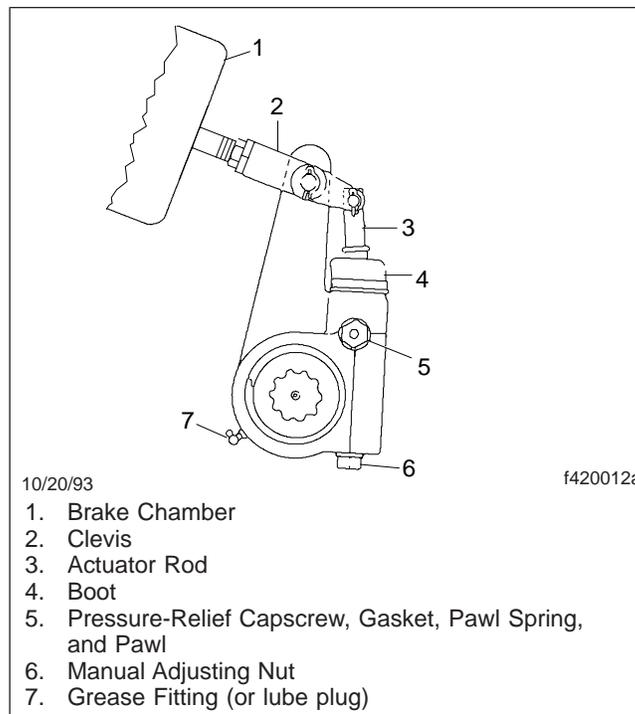
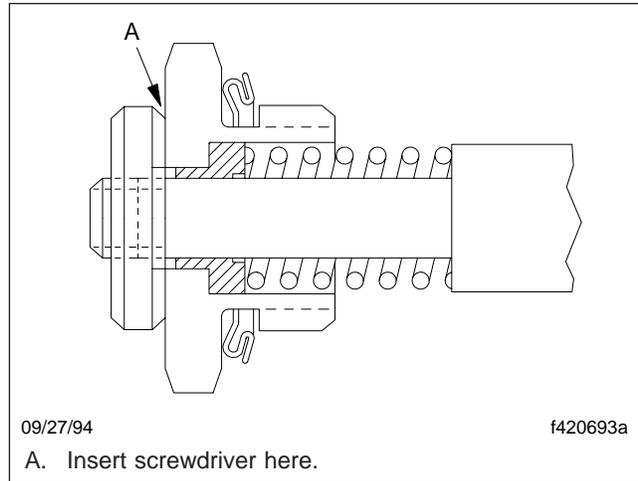

Fig. 4, Meritor Automatic Slack Adjuster
Fig. 6, Pull-Pawl Assembly (sectional view)
1. Check the boot for cuts, tears, etc. (**Fig. 4**), and replace it if necessary.
3.3 If the free-stroke is incorrect, remove the pressure-relief capscrew, gasket, pawl spring, and pawl from the slack adjuster housing. If equipped with a pull-pawl assembly (Fig. 6), carefully insert a screwdriver and raise the relief cap about 1/8 inch (3.2 mm).
- 4.3 The brake chamber stroke must be less than the measurements shown in **Table 1**. If the brake chamber stroke is incorrect, remove the pressure-relief cap-screw, gasket, pawl spring, and pawl (**Fig. 4**, Ref. 5) from the slack adjuster housing. If equipped with a pull-pawl assembly (**Fig. 6**), carefully insert a screwdriver and raise the relief cap about 1/8 inch (3.2 mm).
1. Remove the pressure-relief capscrew, gasket, pawl spring, and pawl. See **Fig. 4**, Ref. 5.